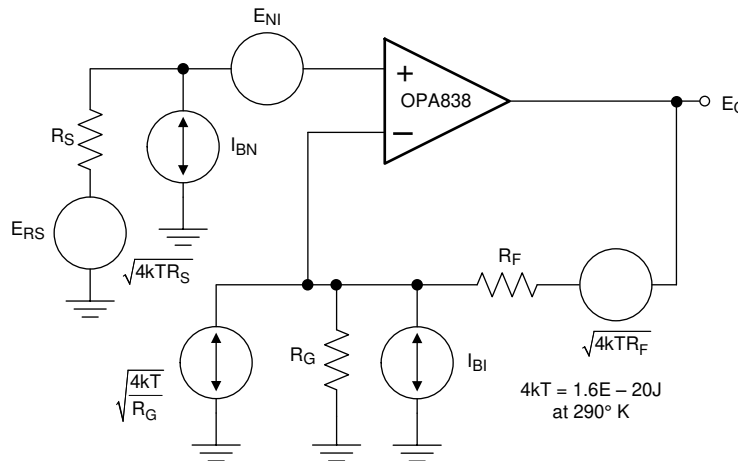
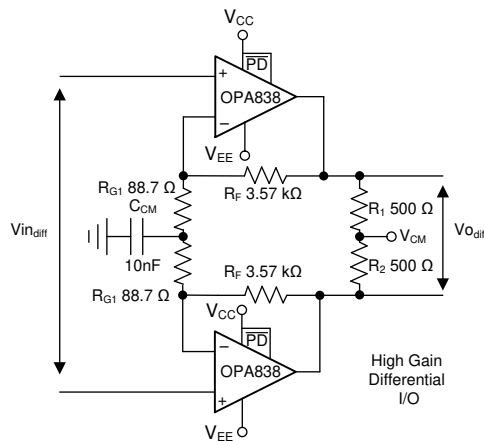

図 9-3. Op-Amp Noise-Analysis Model
図 9-4. High-Gain Differential I/O Stage
The decompensated voltage feedback of the OPA838 op amp offers among the lowest input voltage and current noise terms for any device with a supply current less than 1 mA. 図 9-3 shows the op amp noise analysis model that includes all noise terms. In this model, all the noise terms are shown as noise voltage or current density terms in nV/√Hz or pA/√Hz.
The total output spot noise voltage is computed as the square root of the squared contributing terms to the output noise voltage. This computation is adding all the contributing noise powers at the output by superposition, then taking the square root to return to a spot noise voltage. 式 3 shows the general form for this output noise voltage using the terms presented in 図 9-3.
A high-gain differential-to-differential I/O circuit can be used to drive a second-stage FDA or a differential-to-single-ended stage. This circuit is frequently used in applications where high input impedance is required (for example, if the source cannot be loaded). 図 9-3 illustrates an example design where the differential gain is 41 V/V. An added element between the two R_G resistors increases the noise gain for the common-mode feedback. Make sure to provision for the added element; otherwise, a decompensated VFA (such as the OPA838) often oscillates. With only the R_G elements in the differential I/O design, the common-mode feedback is unity-gain and often causes high-frequency, common-mode oscillations. To resolve this issue, split the R_G elements in half and add a low-impedance path, such as a capacitor or a DC reference, between the two R_G values.
As an example design, start with the circuit in 図 9-4.
- Assess the DC common-mode biasing on the noninverting inputs. The DC biasing must be in range and have a gain of 1 to the output. This is not illustrated in 図 9-3.
- If a DC reference is used as the mid- R_G bias, setting the reference equal to the noninverting input bias voltage sets the output common-mode to that voltage. Using a capacitor as illustrated in Figure 9-3 accomplishes the same results.
- Set the total R_G value near the high gain values using 表 9-1. This 178- Ω total must be split for a center tap to increase the common-mode noise gain, as shown by the 88.7- Ω value in 図 9-4.
The common-mode loop instability without the R_G center tap is not often apparent in the closed-loop differential simulations. The common-mode loop instability without the R_G center tap can often be detected in a common-mode output-noise simulation as 図 9-5 shows. Grounding the inputs 図 9-4 and running an output-noise simulation for the common-mode tap point in 図 9-3 shows a peaking in the noise at high frequency. This peaking indicates low-phase margin for the common-mode loop. 図 9-5 shows this peaking in the lowest noise curve, with two options for improving phase margin. The first option used in 図 9-4 is a capacitor to ground set to increase the common-mode noise gain only at higher frequencies. This increase can be seen by the peaking in the common-mode noise of 図 9-5. Another alternative is to provide a dc voltage reference on the R_G center tap. This method raises the common-mode noise gain from dc and beyond. Neither of these latter two options show any evidence of low phase-margin peaking. These two options do increase the output common-mode noise significantly at lower frequencies. Typically, an increase in output common-mode noise is more acceptable than low-phase margin because the next stage (FDA, ADC, differential to single stage) rejects common-mode noise.